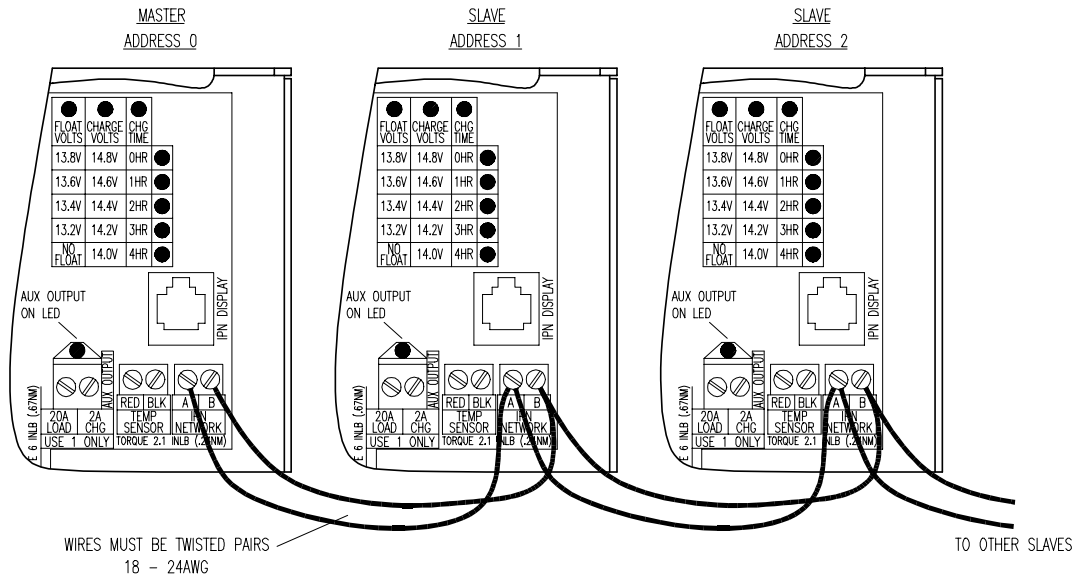

FIGURE 5
- 6) All controllers must be connected to the IPN network as described below and shown in Figure 5.
An RS-485 communication link is established between controllers by daisy chaining a twisted pair cable from the IPN Network terminal block, controller to controller (A-to-A, B-to-B) as shown in Figure 5. A display or other special communication hardware is not required for the IPN network to operate.